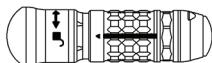

Figure 1
- Gently use a brush to clean cannulations of attachment while immersed in cleaning solution. Use ACB for all attachments except MA-D20-G1 and Minimal Access Attachment Bearing Sleeves. Use SDCB for MA-D20-G1 and Minimal Access Attachment Bearing Sleeves. If attachment has a release sleeve (Figure 1), move sleeve and brush exposed area.
- Manipulate any moving parts such as release sleeves (Figure 1).